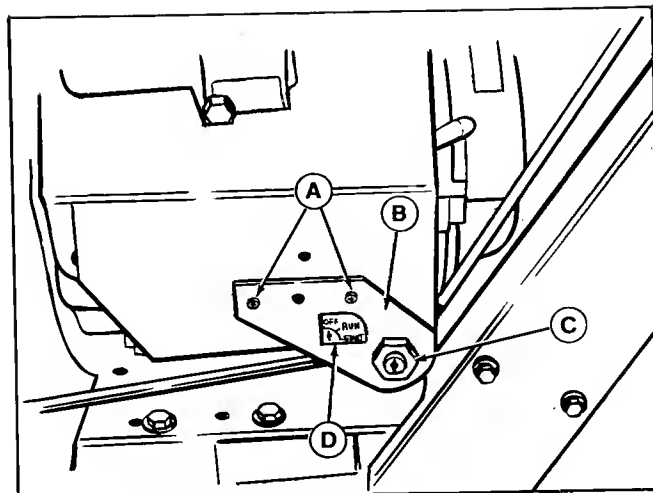

Figure 2. Ignition Switch
3. Remove the existing two screws (A, figure 2), then install the bracket (B) with the screws as shown.
4. Insert the new switch (C, figure 2) from the inside (switch will fit only one way due to flat side). Thread the lockwasher and nut onto the switch to secure in place.
5. Apply the decal (D, figure 2) to the bracket (B) as shown.